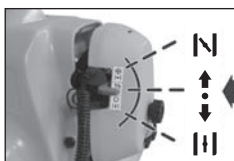

Fig. 10B
2. Place choke in HALF CHOKE ":" position (Fig. 10B).